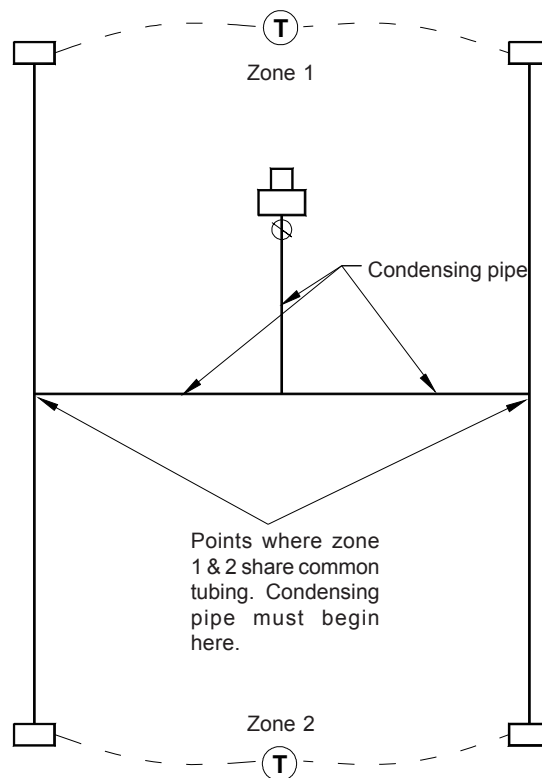

Figure 2-1
- a) At the point where the two different zones will have burners that share common tubing, condensing pipe must be used. The condensing pipe will start at this point and continue through to the pump. See figure 2-1 for an example.